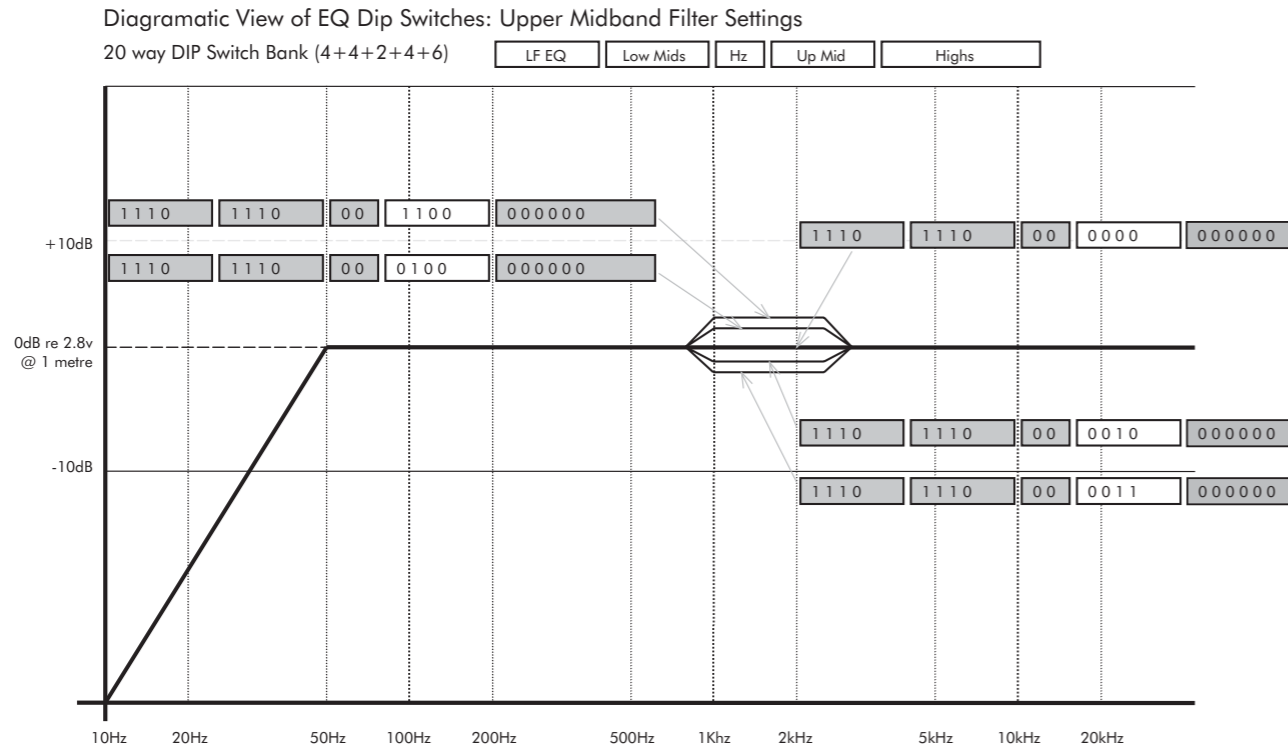

Fig. 6. Range of EQ available for DIP switches 11 to 14. All other DIPs set to 'Flat'.
**Hi-Mid Shelf Boost/Cut:** a shelving filter between 1kHz and 3kHz can be set to +2, +1dB, flat, -1dB, -2dB, to take account of room characteristics and personal preference. Editing news broadcast material is often easier with an increased output in this band. Figure 6 shows the range of adjustment in this area controlled by DIP switches 11 to 14.